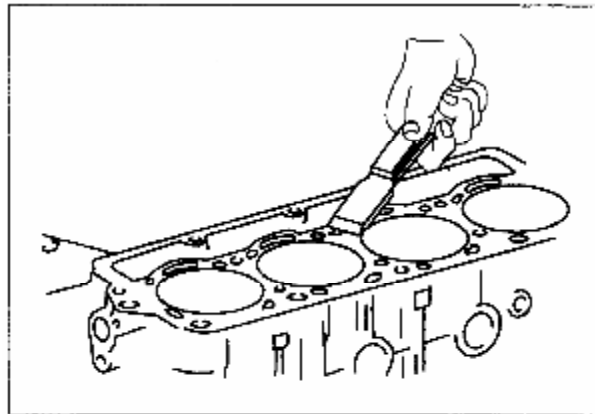

Figure 3-5 Clearing of Cylinder Head / Block
3.1.5 After a cylinder head has been dismantled, clear gasket leftovers embedded on surfaces of cylinder head / block with a cutter. Be careful not to scratch contact surface and prevent entry of gasket leftover into tappet hole, water jacket hole and bolt hole (see Figure 3-5).